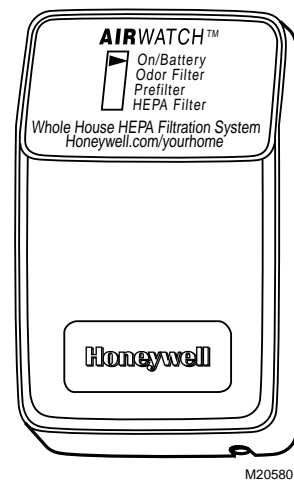

Fig. 6. HEPA AIRWATCH™ Indicator.
11. Observe the AIRWATCH (see Fig. 6):